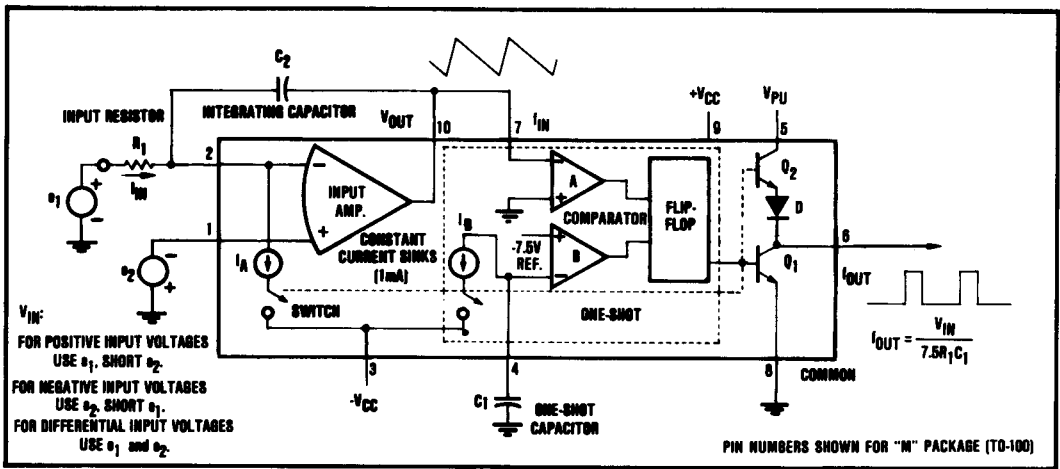
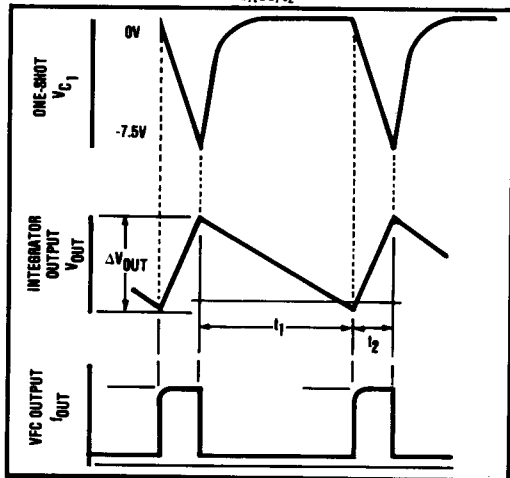

FIGURE 4. Functional Block Diagram of the VFC62.
FIGURE 5. Integrator and VFC Output Timing.
The VFC62 monolithic voltage-to-frequency converter provides a digital pulse train output whose repetition rate is directly proportional to the analog input voltage. The circuit shown in Figure 4 is composed of an input amplifier, two comparators and a flip-flop (forming a one-shot), two switched current sinks, and an active pull-up output transistor stage. Essentially the input amplifier acts as an integrator that produces a two-part ramp. The first part is a function of the input voltage, and the second part is dependent on the input voltage and current sink. When a positive input voltage is applied at V_{IN} , a current will flow through the input resistor, causing the voltage at V_{OUT} to ramp down toward zero, according to $dV/dt = V_{IN}/R_1C_1$. During this time the constant current sink is disabled by the switch. Note, this period is only dependent on V_{IN} and the integrating components.
for the circuit shown in Figure 4. Detailed waveforms are shown in Figure 5.
In general the design sequence consists of: (1) choosing f_{MAX} , (2) choosing the duty cycle at full scale ($D_{FS} = 0.25$ typically), (3) determining the input resistor, R_1 (Figure 4), (4) calculating the one-shot capacitor, C_1 , and (5) selecting the integrator capacitor C_2 .